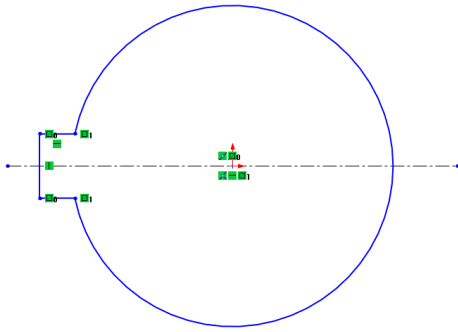

Figure 3-69 The sketch after removing the unwanted portion
- Draw and edit the sketch using the **Mirror Entities** and **Trim Entities** tools, refer to Figure 3-69.
12. Choose the **Power trim** button from the PropertyManager. Press and hold the left mouse button and drag the cursor over the portion to be removed. Choose the **OK** button from the PropertyManager. The sketch after removing the unwanted portion is shown in Figure 3-69.